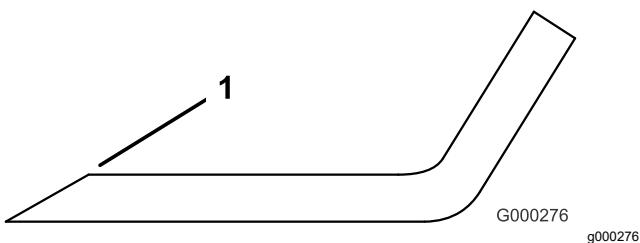

Figure 85
3. Examine the cutting edges of all of the blades and sharpen the cutting edges if they are dull or nicked (Figure 85).
Note: Sharpen only the top of the cutting edge and maintain the original cutting angle to ensure sharpness (Figure 85). The blade remains balanced if you remove the same amount of metal from both cutting edges.